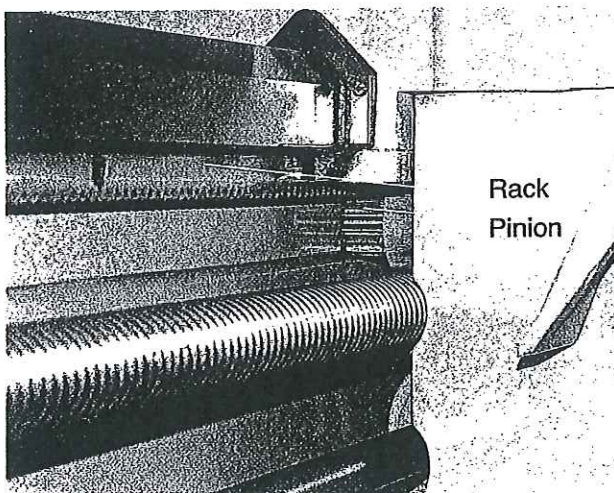

Figure 8
5. New rack and old gear. (If machine has been crashed) (Figure 8)